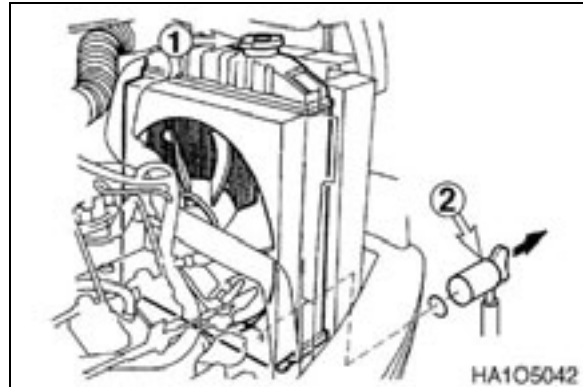

Figure 77
1. Slowly open radiator cap (1, Figure 77) to allow any pressure to escape.
2. Place a container under the radiator and open the drain valve (2, Figure 77).